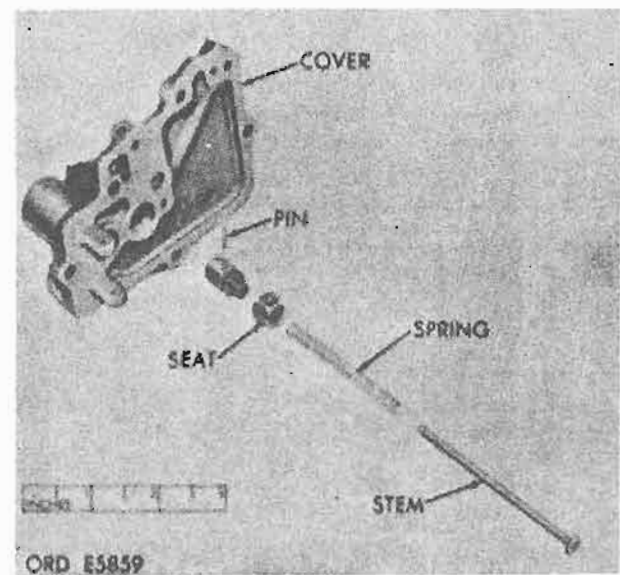

Figure 5-12. Power valve actuating piston assembly.
(6) Remove power valve actuating piston and stem assembly (fig. 5-12).
e. *Cover Assembly.* Install power valve actuating piston and stem assembly (fig. 5-12).